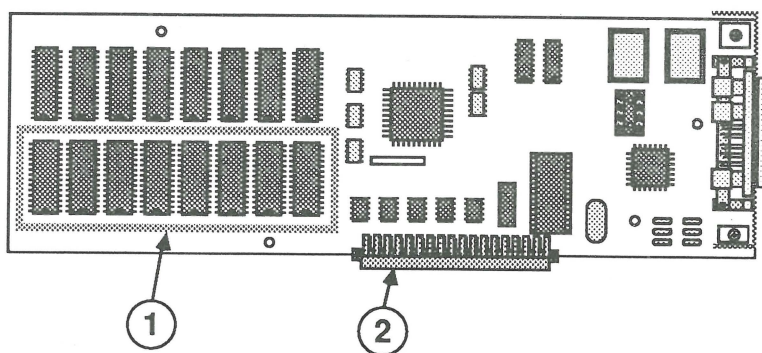

FIGURE 2
1. Install the eight video RAM chips in the appropriate locations on the video card: D1 through D8 (Figure 2, #1).
Note: The notch at the end of each RAM chip should face the expansion slot connector (Figure 2, #2) on the bottom of the card.